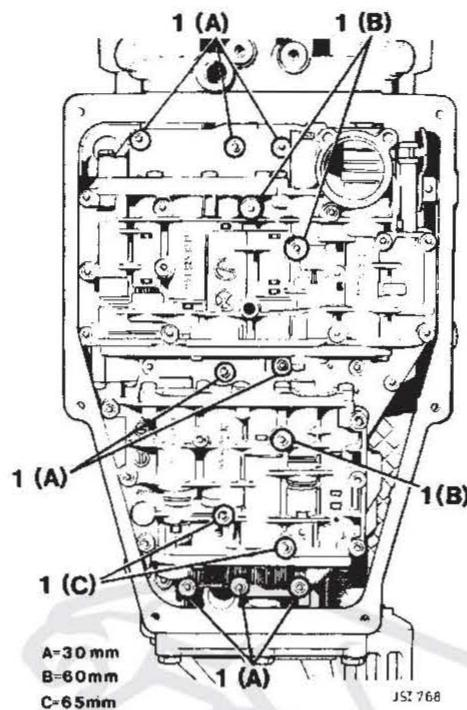

Fig 2
4. Remove the valve block assembly securing screws (1 Fig 2) and carefully lower the block.
Note different length of screws (Fig 2).